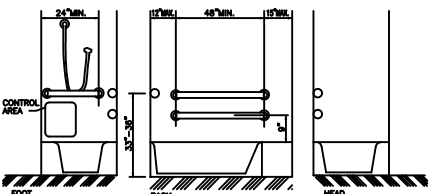

FIG. 34 GRAB BARS AT BATHTUBS
- 4.20.3 SEAT. AN IN-TUB SEAT OR A SEAT AT THE HEAD END OF THE TUB SHALL BE PROVIDED AS SHOWN IN FIG. 34. THE STRUCTURAL STRENGTH OF SEATS AND THEIR ATTACHMENTS SHALL COMPLY WITH 4.28.3. SEATS SHALL BE MOUNTED SECURELY AND SHALL NOT SLIP DURING USE.
- 4.20.4 GRAB BARS. GRAB BARS COMPLYING WITH 4.28 SHALL BE PROVIDED AS SHOWN IN FIG. 34.
- 4.20.5 CONTROLS. FAUCETS AND OTHER CONTROLS COMPLYING WITH 4.27.4 SHALL BE LOCATED AS SHOWN IN FIG. 34.
- 4.21.2 SIZE & CLEARANCE. EXCEPT AS SPECIFIED IN 8.1.2, SHOWER STALL SIZE AND CLEAR FLOOR SPACE SHALL COMPLY WITH FIG. 34(a) OR (b). THE SHOWER STALL IN FIG. 34(a) SHALL BE 36" BY 36" (915mm BY 915mm). THE SHOWER STALL IN FIG. 34(b) WILL FIT INTO THE SPACE REQUIRED FOR A BATHTUB.
- 4.21.4 GRAB BARS. GRAB BARS COMPLYING WITH 4.28 SHALL BE PROVIDED AS SHOWN IN FIG. 34.
- 4.21.5 CONTROLS. FAUCETS AND OTHER CONTROLS COMPLYING WITH 4.27.4 SHALL BE LOCATED AS SHOWN IN FIG. 34 IN SHOWER STALLS 36" BY 36" (915mm BY 915mm). ALL CONTROLS, FAUCETS, AND THE SHOWER UNIT SHALL BE MOUNTED ON THE SIDE WALL OPPOSITE THE SEAT.